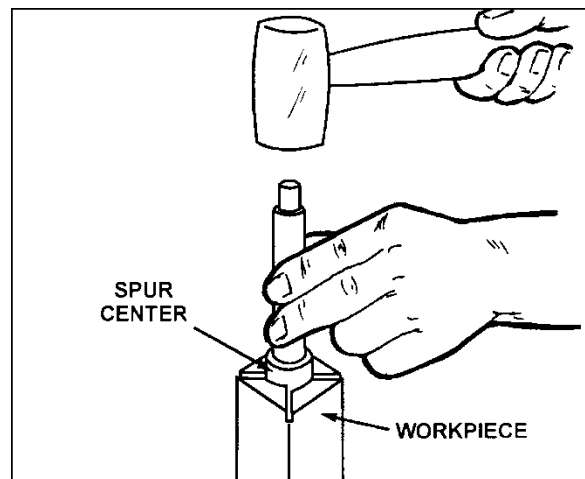

Figure 10-4
3. Drive the spur center about 1/4" into the workpiece, using a wood mallet or dead blow hammer as shown in Figure 10-4. Be careful not to split the workpiece. **Never use a steel-faced hammer and never drive the workpiece onto the spur center while it is mounted in the Lathe spindle.**